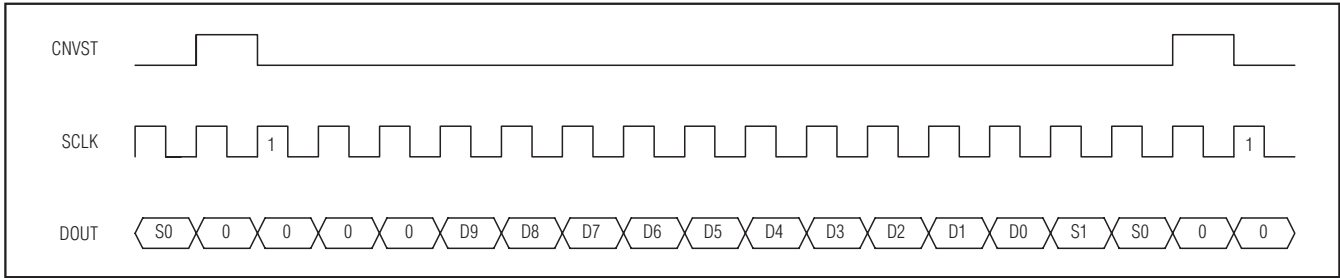

Figure 17. DSP Interface—Continuous Conversion
The MAX1077/MAX1079 can also be connected to the TMS320C54_ by using the data transmit (DX) pin to drive CNVST and the CLKX generated internally to drive SCLK. A pullup resistor is required on the CNVST signal to keep it high when DX goes high impedance and 0001hex should be written to the DXR continuously for continuous conversions. The power-down modes can be entered by writing 00FFhex to the DXR (see Figures 17 and 18).
can be selected to eliminate the need for writing to the transmit-data register more than once. For single conversions, idle CNVST high and pulse it low for the entire conversion. The ADSP21_ _ _ STCTL and SRCTL registers should be configured for late framing (LAFR = 1) and for an active-low frame (LTFS = 1, LRFS = 1) signal. This is also the best way to enter the power-down modes by setting the word length to 8 bits (SLEN = 1001). Connect the V_L pin to the ADSP21_ _ _ supply voltage when the MAX1077/MAX1079 are operating with a supply voltage higher than the DSP supply voltage (see Figures 17 and 18).